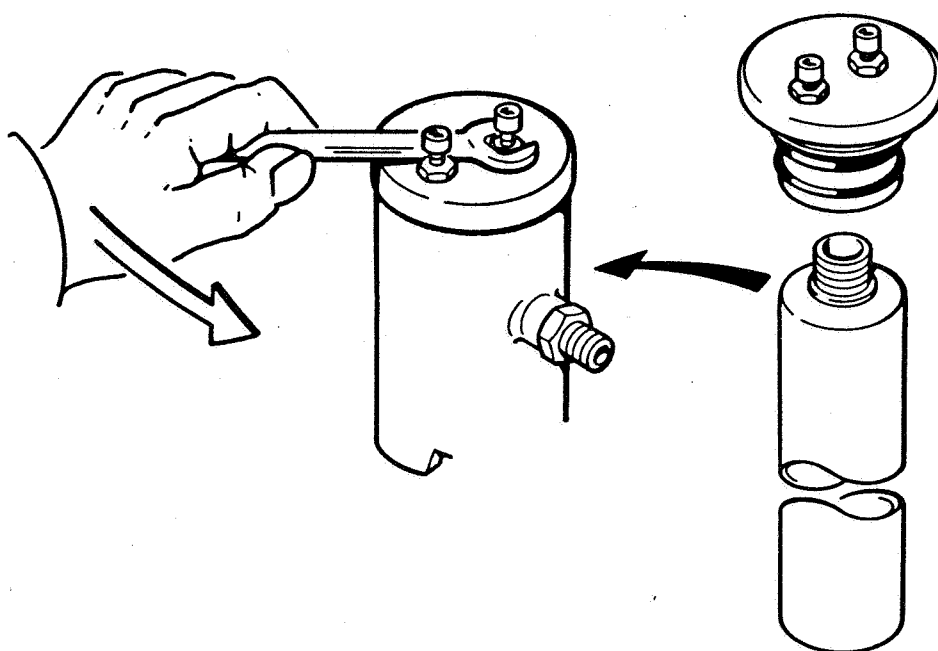

Fig. 5.3 Cartridge exchange
- Screw out filter head using a screwdriver or a pin (Fig. 5.3).